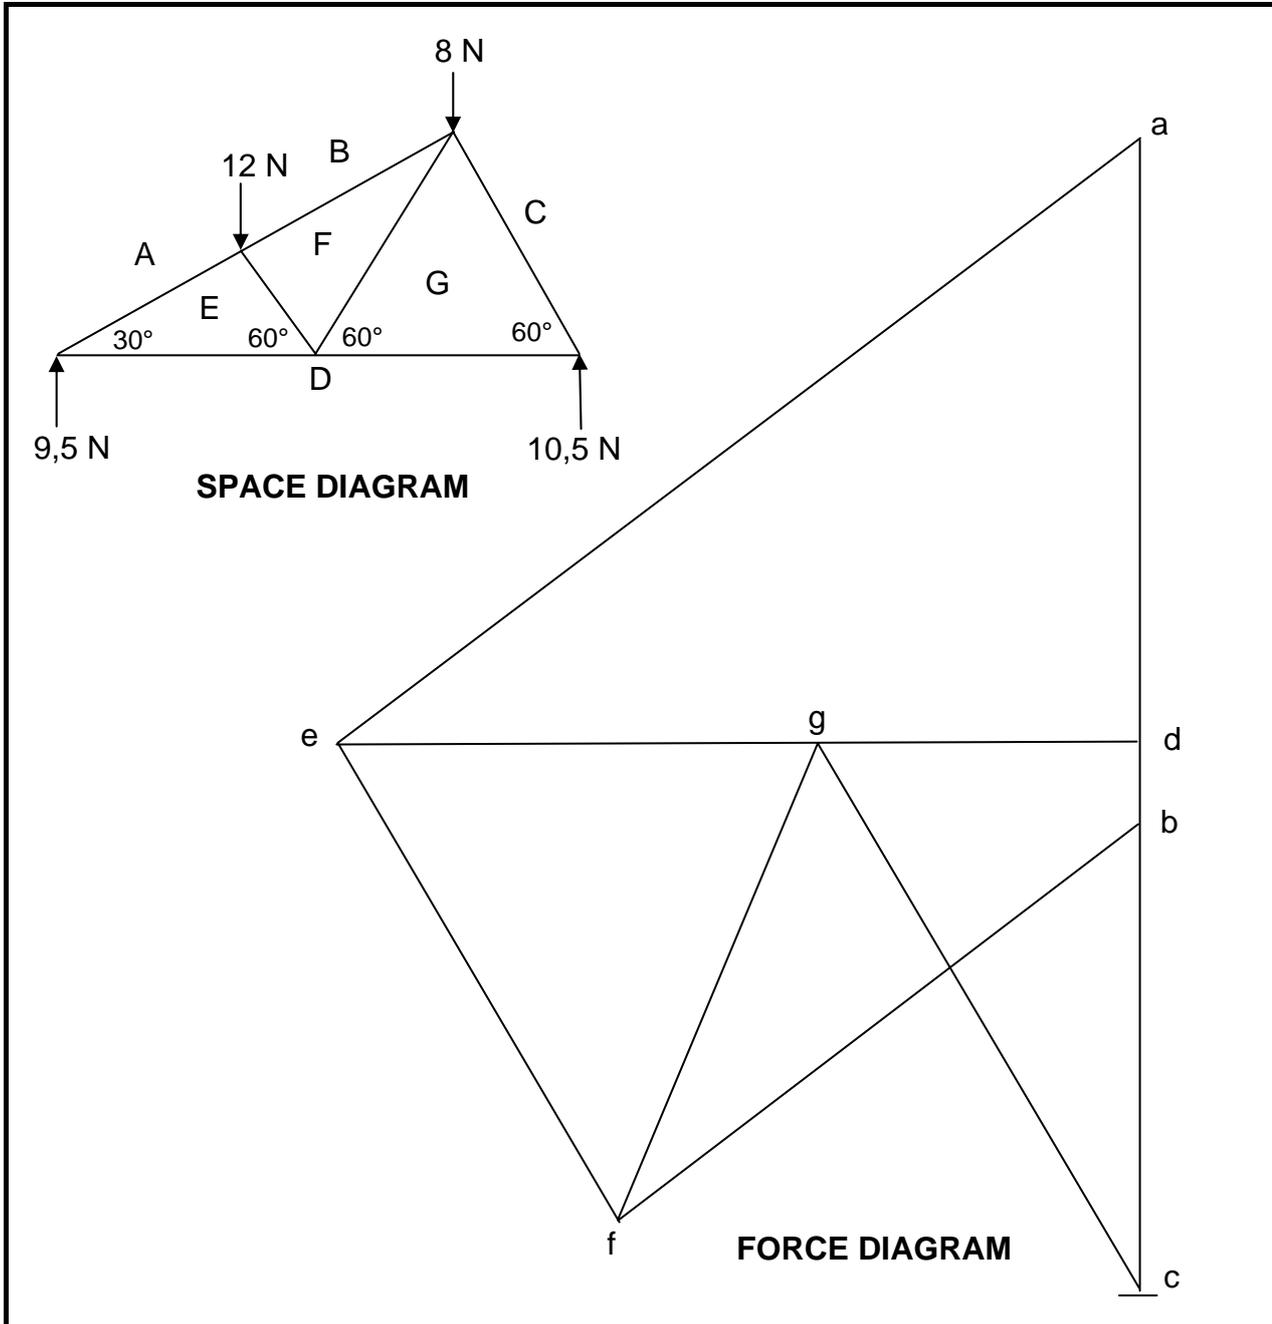

FIGURE 5.3
5.3 FIGURE 5.3 shows the space diagram and the force diagram of a frame. Write down the numbers 5.3.1 to 5.3.6 in your ANSWER BOOK and indicate the nature of the forces in the corresponding members, as illustrated in the table below, by using the given information from the diagrams.